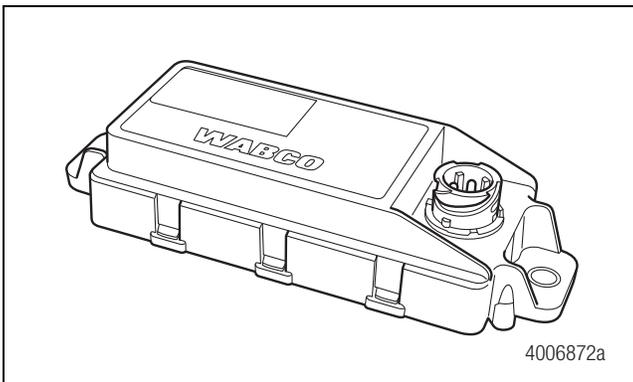

Figure 2
2. Remove the two mounting capscrews and nuts. Remove the ESC3 module, part number 400 850 199 0. Retain the hardware for reuse. Set aside the ESC module for return to WABCO. Figure 2.